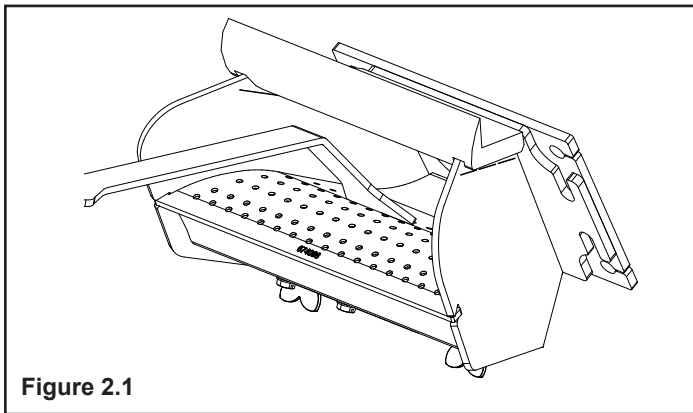

Figure 2.1
- Scrape the top holed surface and sides of the burn pot down to auger tube Figure 2.1. It is not necessary to completely remove all material from the burn pot. The excess will be pushed out during the next use.